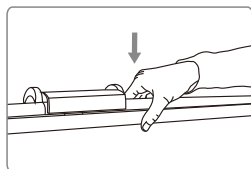

Figure 14
- a. Hold and push slightly fixed tube in the middle of position of tube until loose from the semicircle tube. (Figure 14)